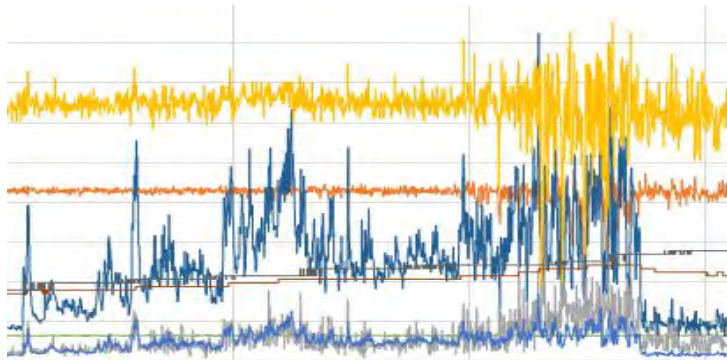

Fig. 4 : Inverter data
- Measurements logging (see inverter data on fig. 4)